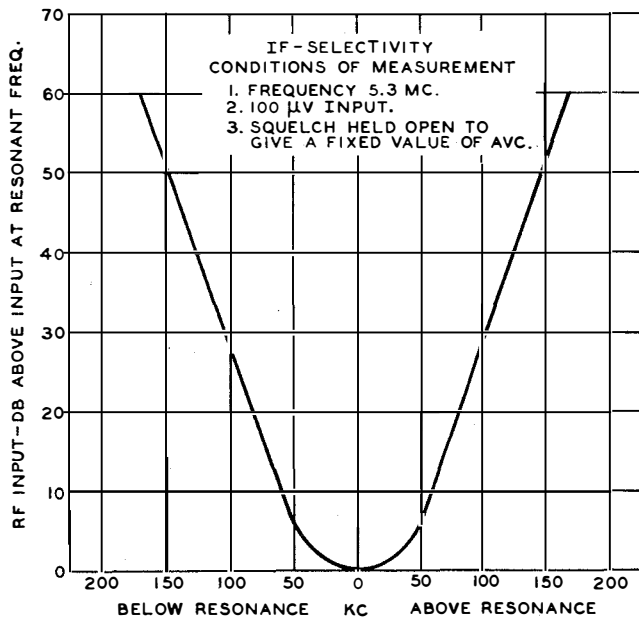

Figure 1-3—IF Selectivity Curve
(9) IF selectivity. (Refer to figure 1-3.)